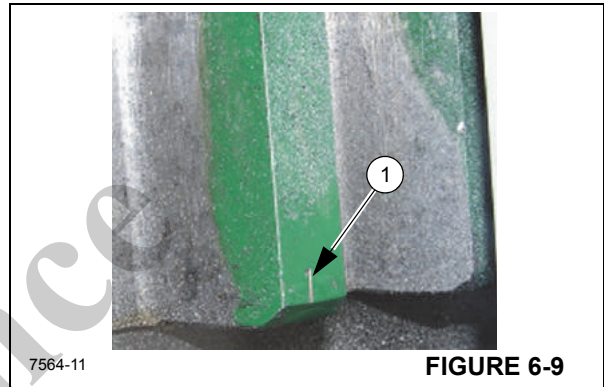
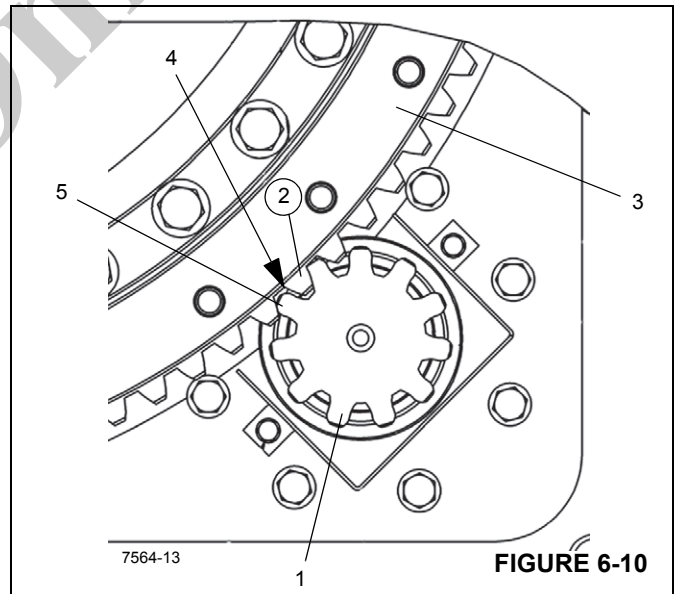

FIGURE 6-9
FIGURE 6-10
- Install the swing drive pinion (1) (Figure 6-10) so that the drive pinion gear teeth are aligned with the high point (maximum eccentricity) teeth (2) on the turret bearing (3).
The high point or maximum eccentricity of the turret bearing is identified at the factory using three gear teeth in a row on the turret bearing as the high point. Tooth one and three are steel stamped (1, Figure 6-9) with a dash mark at the top and bottom of the gear teeth. Use these three gear teeth when installing the swing drive and checking the backlash shown in Figure 6-10.
- Check the backlash (4, Figure 6-10) with a .203 mm (0.008 in) thick shim between the drive pinion gear teeth (5) and the high point (maximum eccentricity) gear teeth (2) on the turret bearing.
NOTE: If a new bearing (3) (Figure 6-10) is installed, a new pinion gear (1) must also be used.